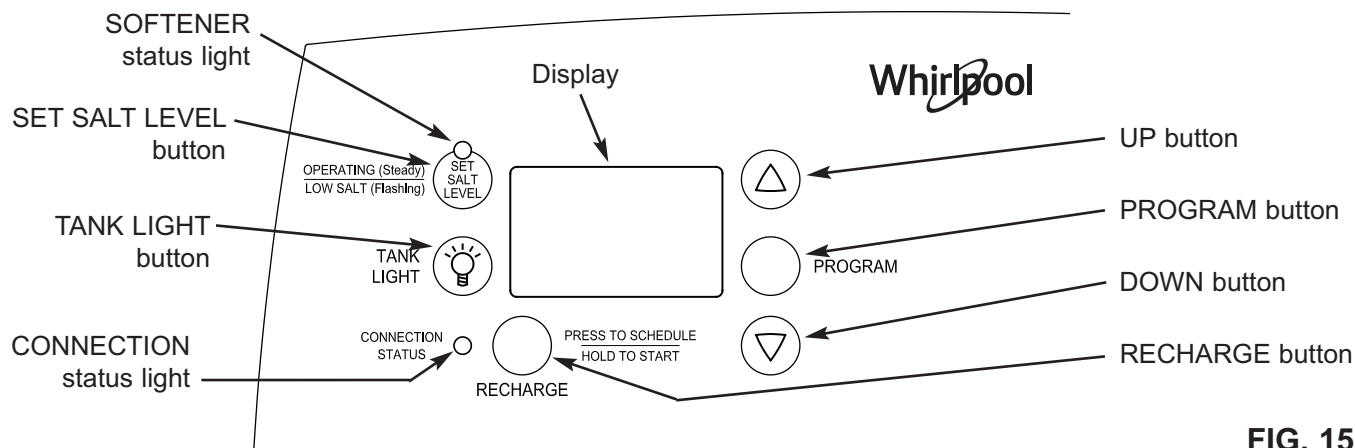

FIG. 15
1. Verify that the green connection status light on the control panel (see Fig. 15) is flashing twice, repeatedly. If it is not, follow the instructions under "Returning to AP Mode" on page 21.